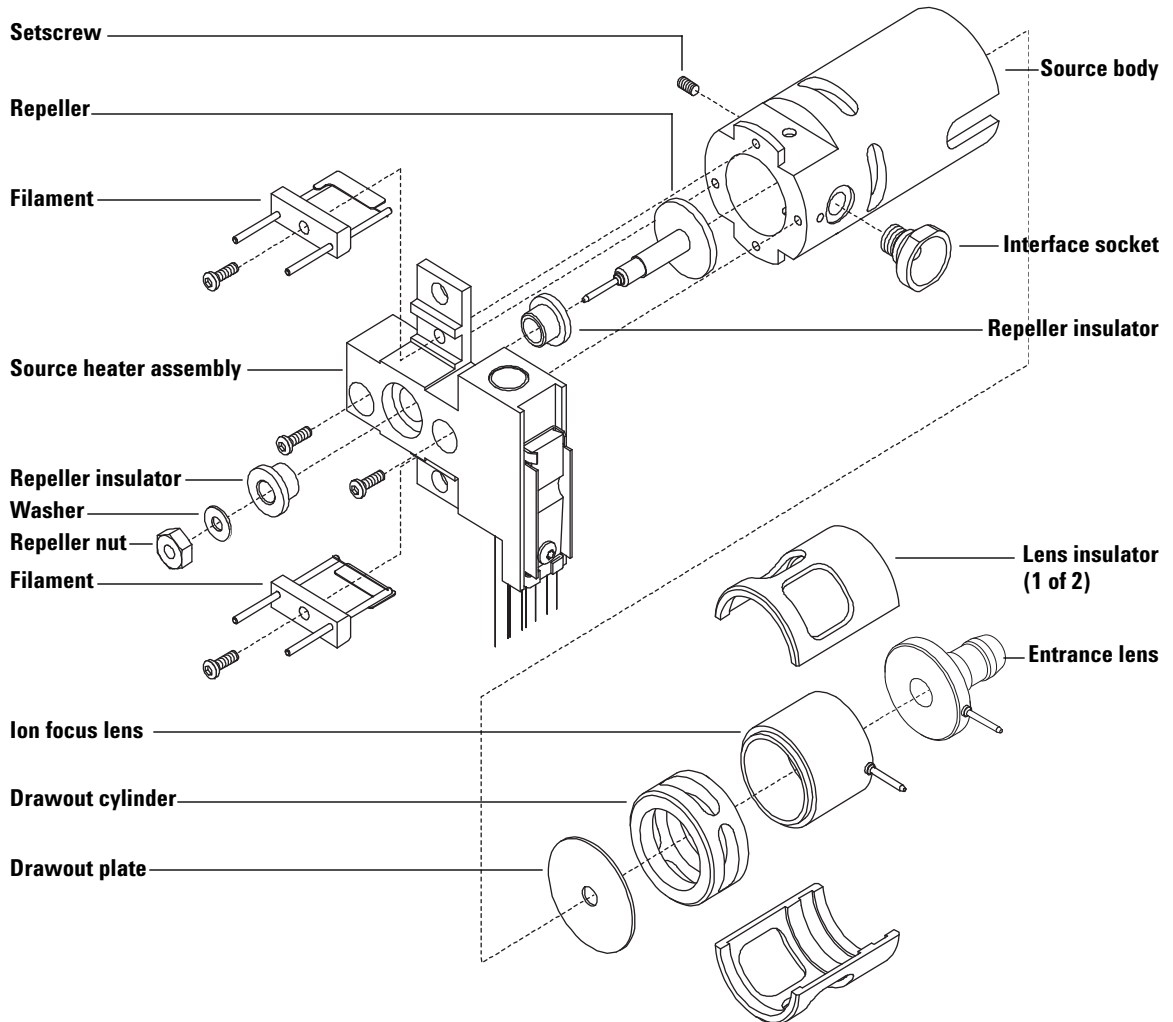

Figure 20 Disassembling the EI ion source
- 2 Remove the filaments (Figure 20).